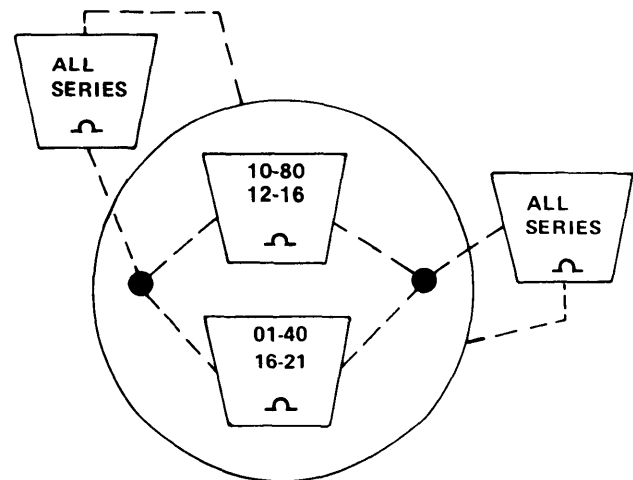

Fig. 3 Fuel &amp; Temperature Gauge Test — External CVR
**Hornet, Gremlin** — Fuel gauge — 16-21 ohms, temperature gauge (see Fig. 3 for ohm values)